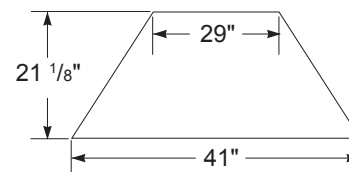

Figure 3 - Fireplace Bottom Dimensions
- If your fireplace is to be installed directly on carpeting, vinyl tile or any combustible material other than wood, it must be installed on a metal or wood panel extending the full width and depth of the fireplace. See Figure 3.